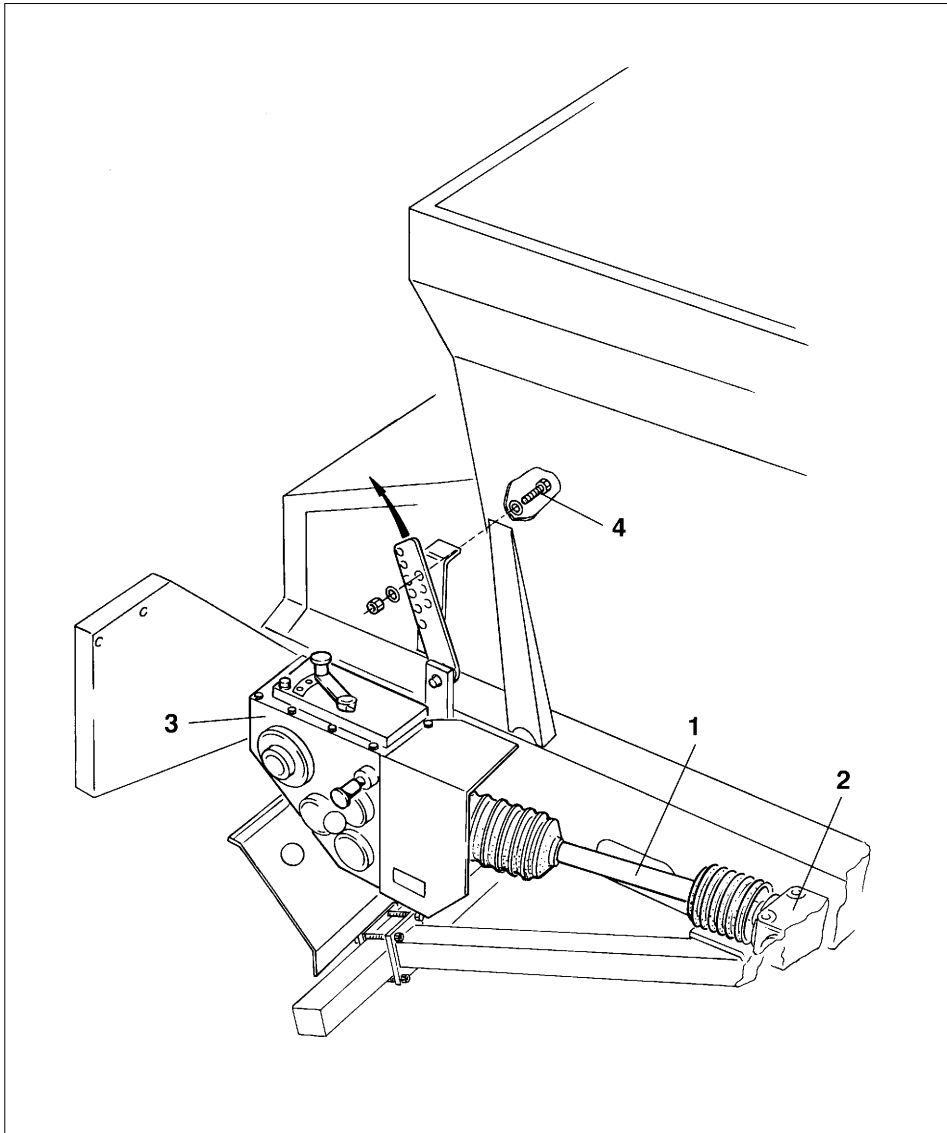

Fig. 12.1
1. Remove the p.t.o. shaft (fig. 12.1/1) from the drive shaft under the bulk precision broadcaster and connect it to the angular gear box (fig. 12.1/2) of the ground wheel. To prevent the angle of the p.t.o. shaft (fig. 12.1/1) from becoming too extreme, the conveyor belt gear box (fig. 12.1/3) must be moved accordingly. After the M16 hexagonal bolt (fig. 12.1/4) has been removed, the gears can be repositioned. The new position is secured using the hexagonal bolt.
Angular gear box, ground wheel drive (fig. 12.1/2)